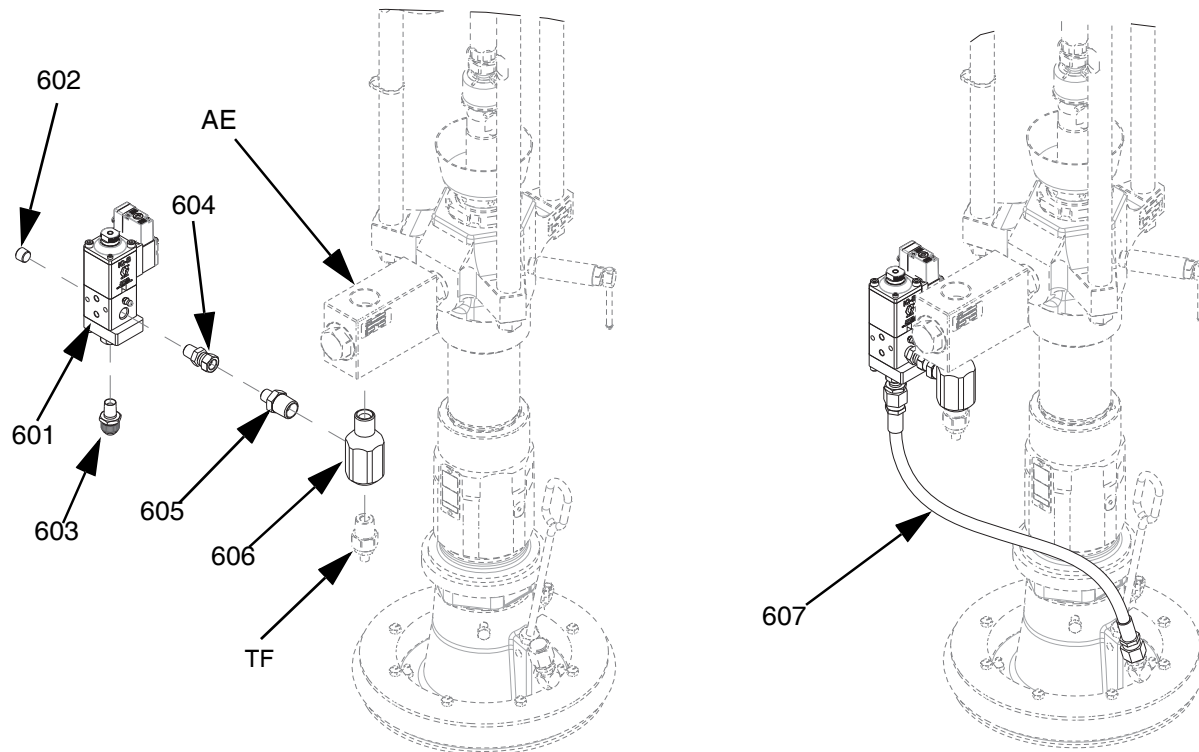
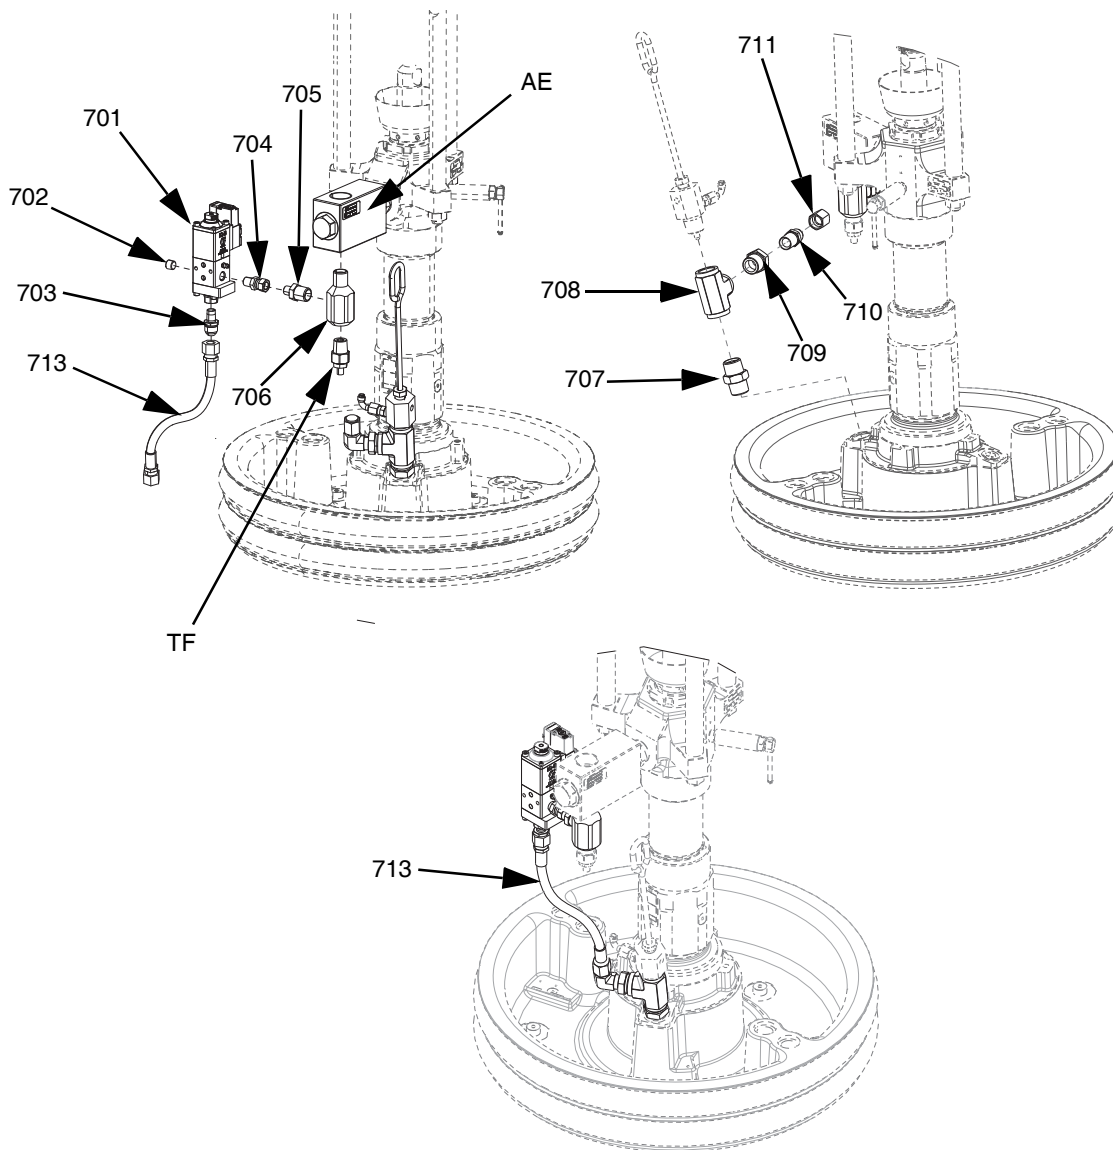

FIG. 68: Platen Valve Kit, 25R452
Fig. 72: Platen Valve Kit, 25R453
2. Disconnect the pressure transducer from port 5 on the Electric Driver (AB).
3. Remove the pressure transducer fitting (TF) and the fitting it is attached to from the Fluid Check Valve (AE).
4. Using thread tape, install the 1/2 NPT tee fitting (606) into the Fluid Check Valve (AE), then reinstall the pressure transducer fitting (TF) into the bottom of the 1/2 NPT tee fitting (606).
5. Using thread tape, install the 1/4 NPT x 1/2 NPT adapter (605) into the 1/2 NPT tee fitting (606). See FIG. 68.
6. Install the platen valve (601) onto the 1/4 NPT fitting (606) using the swivel fitting (604), then tighten.
7. Install the recirculation hose (607) onto the platen valve (601) and tighten.
8. Reconnect the pressure transducer to port 5 on the Electric Driver (AB).
4. Using thread tape, install the 1/2 NPT tee fitting (706) into the Fluid Check Valve (AE), then reinstall the pressure transducer fitting (TF) into the bottom of the 1/2 NPT tee fitting (706).
5. Using thread tape, install the 1/4 NPT x 1/2 NPT adapter (705) into the 1/2 NPT tee fitting (706). See FIG. 68.
6. Install the platen valve (701) onto the 1/4 NPT fitting (706) using the swivel fitting (704), then tighten.
7. Install the recirculation hose (713) onto the platen valve (701) and tighten.
9. Remove the Bleed Stick (EF) and Bleed Port (EG), and install the fittings (707, 708, 709, 710, 711) as shown in FIG. 72.
- NOTE:** Do not install the recirculation hose (713) onto the platen valve fitting (703) until material has been loaded into the platen valve (701). See the E-Flo iQ Operation manual for instructions to load material into the platen and platen valve.
10. Unplug the existing M12 connector from port 3 on the Electric Driver (AB).
11. Connect the harness (714) to port 3 on the Electric Driver (AB).